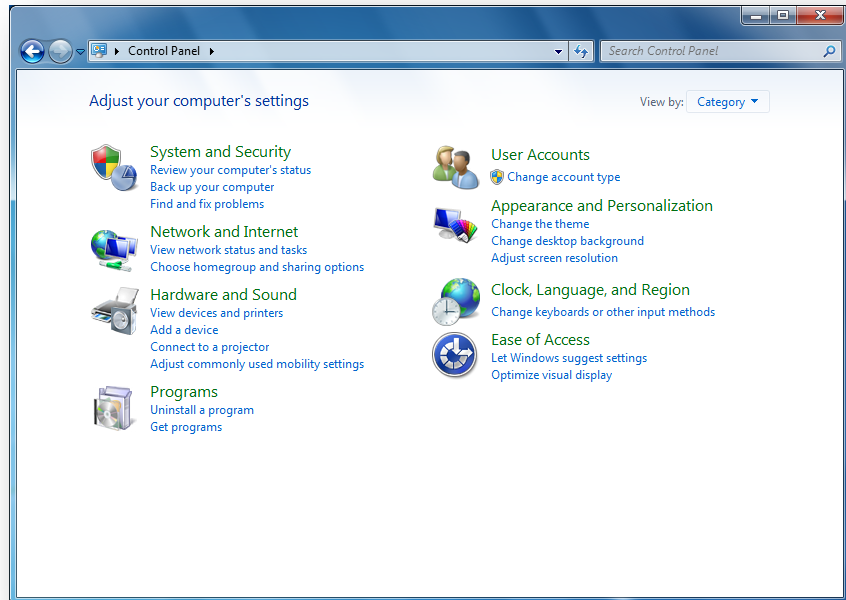

Figure 79 – Control Panel
21. In the SQL Server Management Studio window, click on the plus sign next to the “Security”, then click on the plus sign next to the “Logins” window. Your screen should now resemble Figure 79.